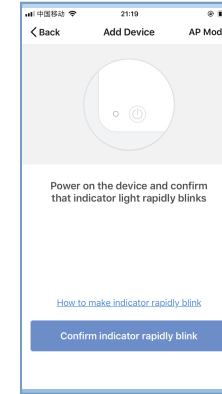
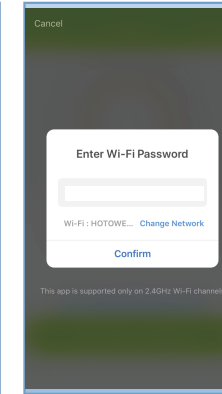

fig 3.2
fig 3.3
- Click "Confirm indicator rapidly blink" (Fig 3.2) then select your network and back to your App to enter the password of your wireless router(Fig.3.3) and confirm.